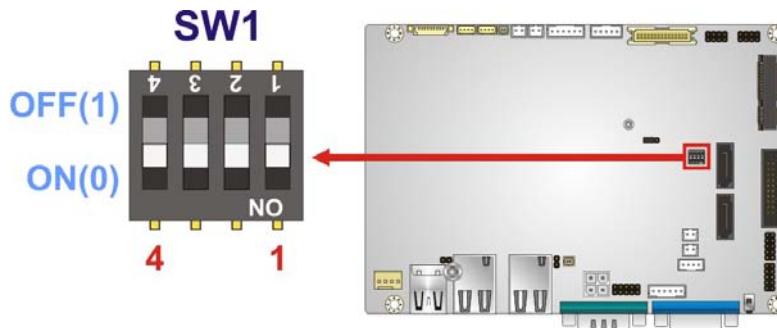

Figure 4-10: LVDS Panel Resolution Selection Switch Location
- Jumper Location: See **Figure 4-10**